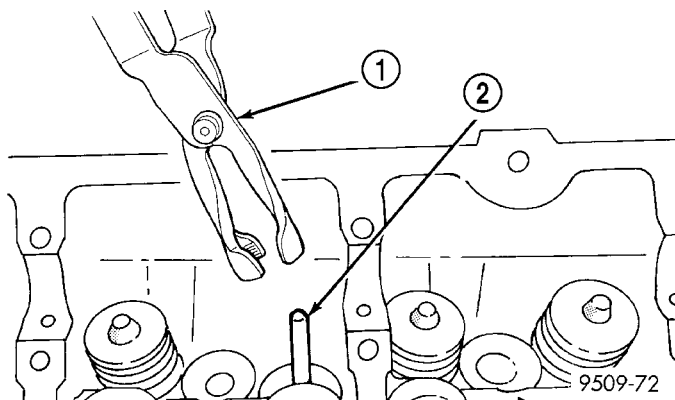

Fig. 42 Valve Stem Seal - Removal
(1) Remove valve spring. (Refer to 9 - ENGINE/CYLINDER HEAD/VALVE SPRINGS - REMOVAL)
(2) Remove valve stem seals by using a valve stem seal tool (Fig. 42).